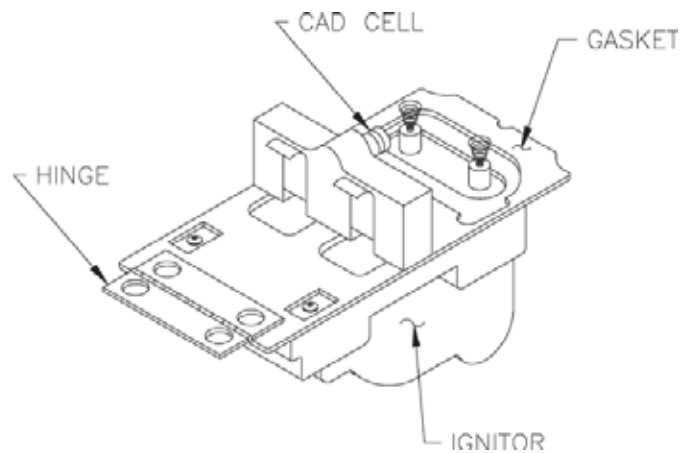

Figure 48: Cad Cell Location
- iv. Cad Cell Check: See Figure 48.